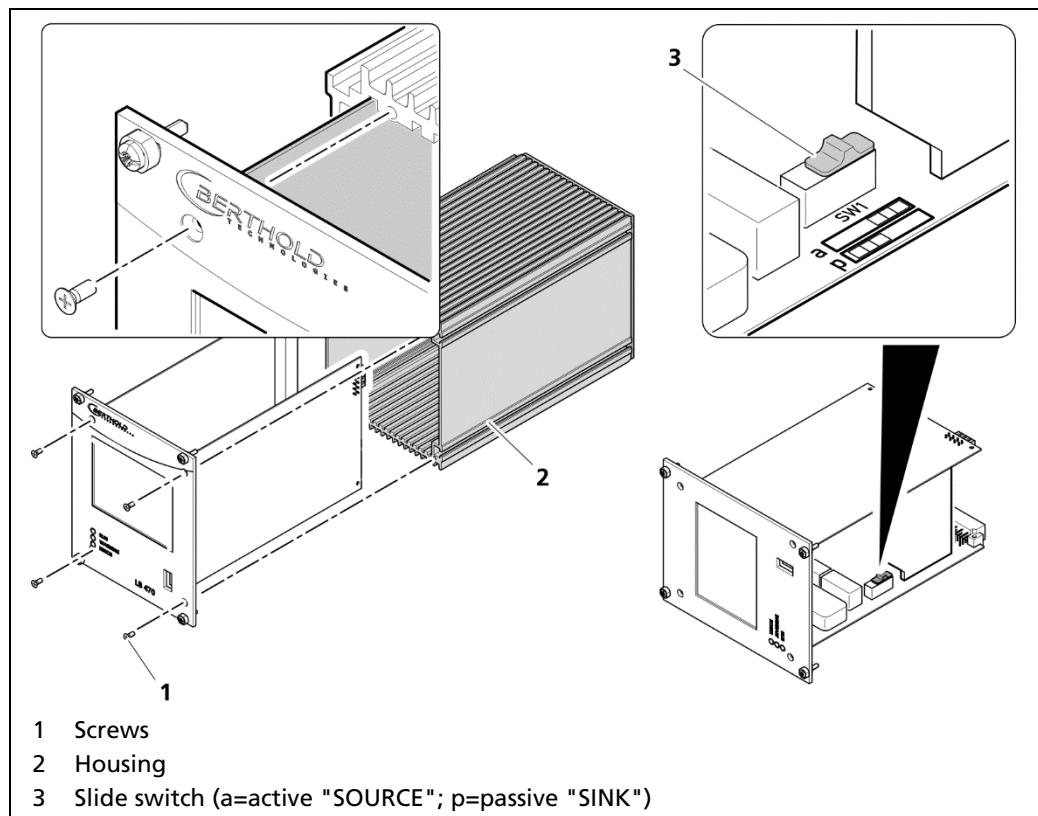

Fig. 22 Switching of the current output
1. Loosen the four sunken screws on the front side of the EVU (Fig. 22, item 1).
2. Pull out the housing (Fig. 22, item 2) carefully.
3. Slide the switch (Fig. 22, item 3) to position **a** for "active" (SOURCE), to position **p** for "passive" (SINK).
5. Screw the front panel to the housing (Fig. 22, item 2) with the four screws (Fig. 22, item 1).